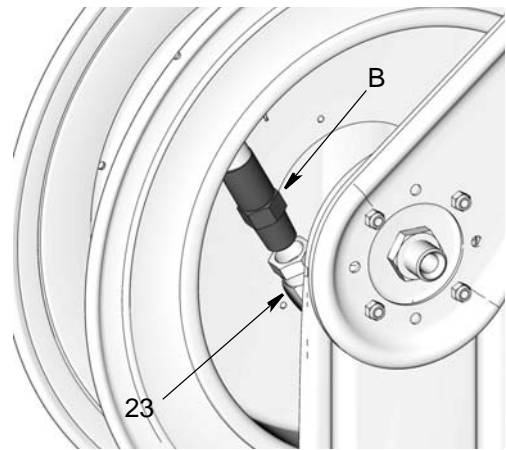

FIG. 9
- Tighten bolt (18).
- Align pedestal assembly (26) to base (24). Install 2 screws (27). Tighten and torque screws to 20-30 ft. lbs (89 - 133 N.m).
- Align guide arm (30) and hose guide (31). Install and tighten screws (52) and nuts (53).
- Install large nut (32). Tighten and torque nut to 85-105 ft. lbs (378 - 467 N.m).
- Connect hose end to the hose reel swivel fitting (23) (FIG. 9). Tighten securely.